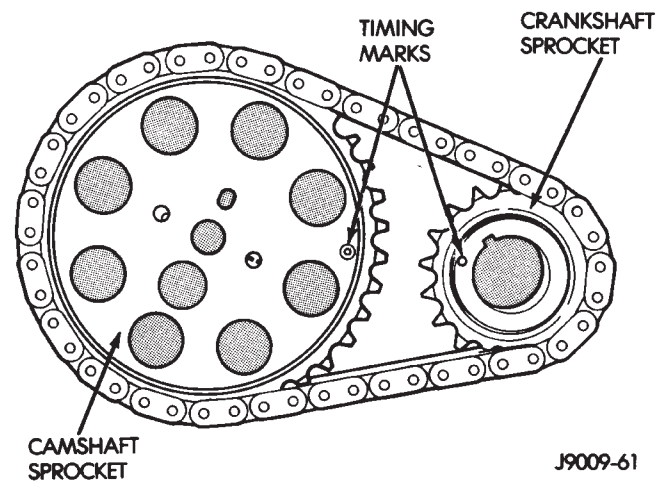

Fig. 5 Crankshaft—Camshaft Alignment—Typical
- (1) Disconnect negative cable from battery.
- (2) Remove the fan and shroud.
- (3) Remove the serpentine drive belt.
- (4) Remove the crankshaft vibration damper.
- (5) Remove the timing case cover.
- (6) Rotate crankshaft until the "0" timing mark is closest to and on the center line with camshaft sprocket timing mark (Fig. 5).
Assemble the timing chain, crankshaft sprocket and camshaft sprocket with the timing marks aligned (Fig. 5).